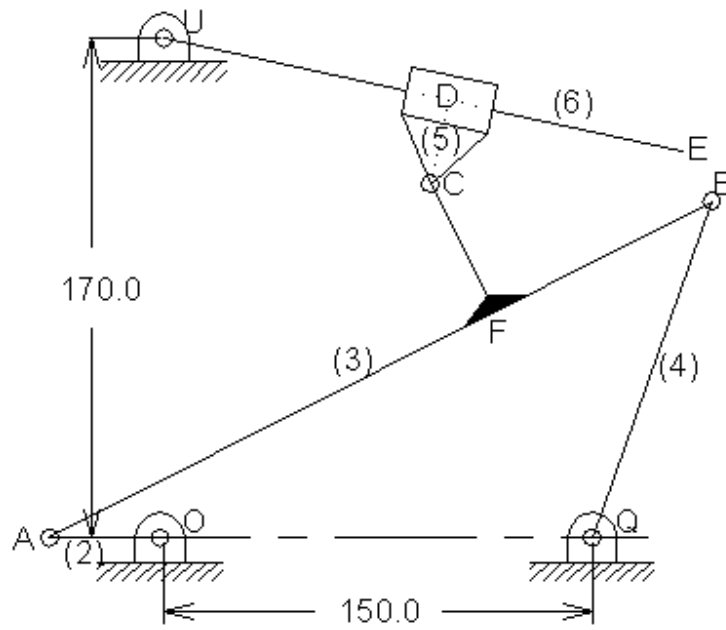

Figure P2.36
2.36 For the mechanism shown in Figure P2.36, the angular velocity of the crank is 72 rad/s clockwise. Calculate the angular velocity and the angular acceleration of the link UE when the crank is horizontal.